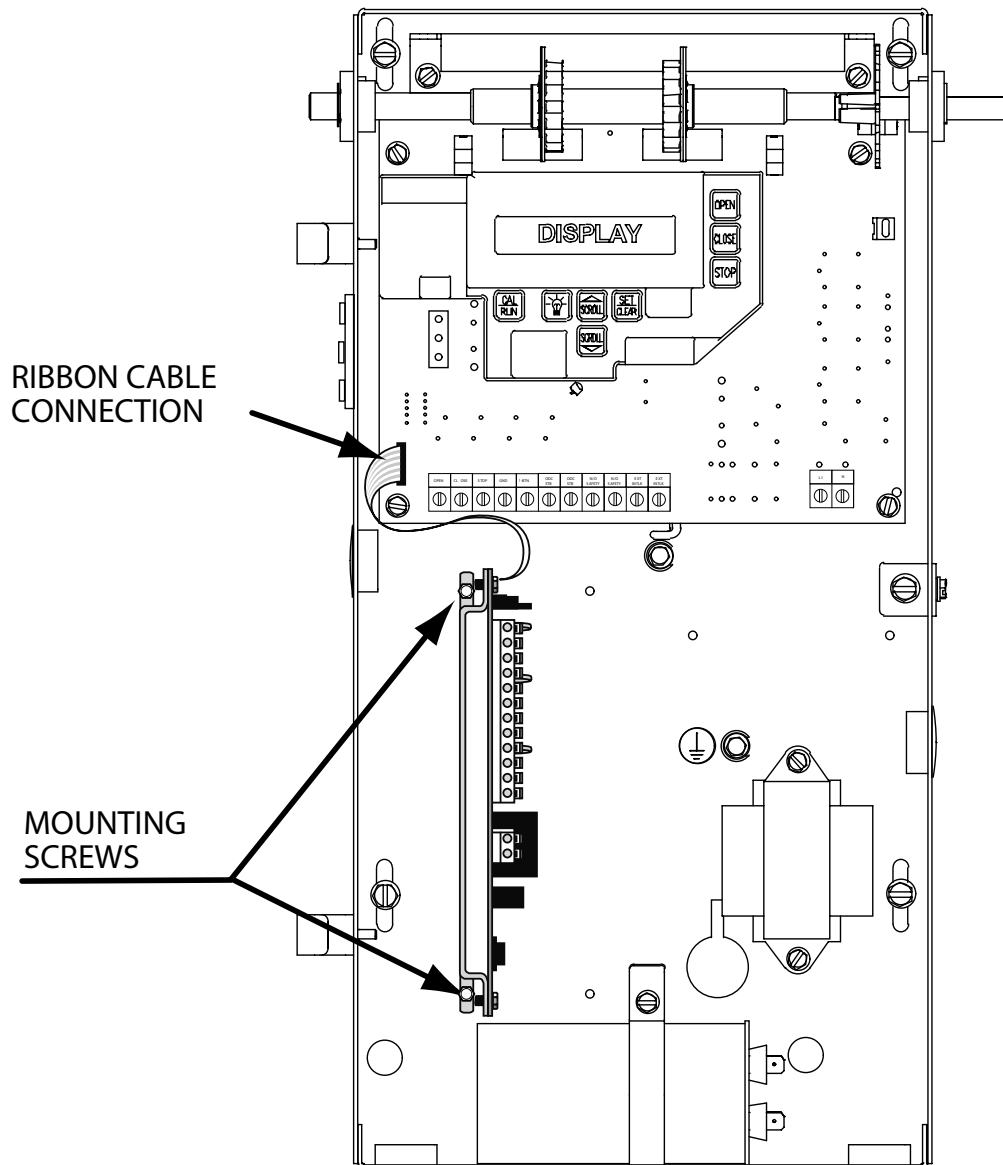

Fig.3A Install TCM in MX Unit
3. Install Timer Close Module. (Fig. 3A)